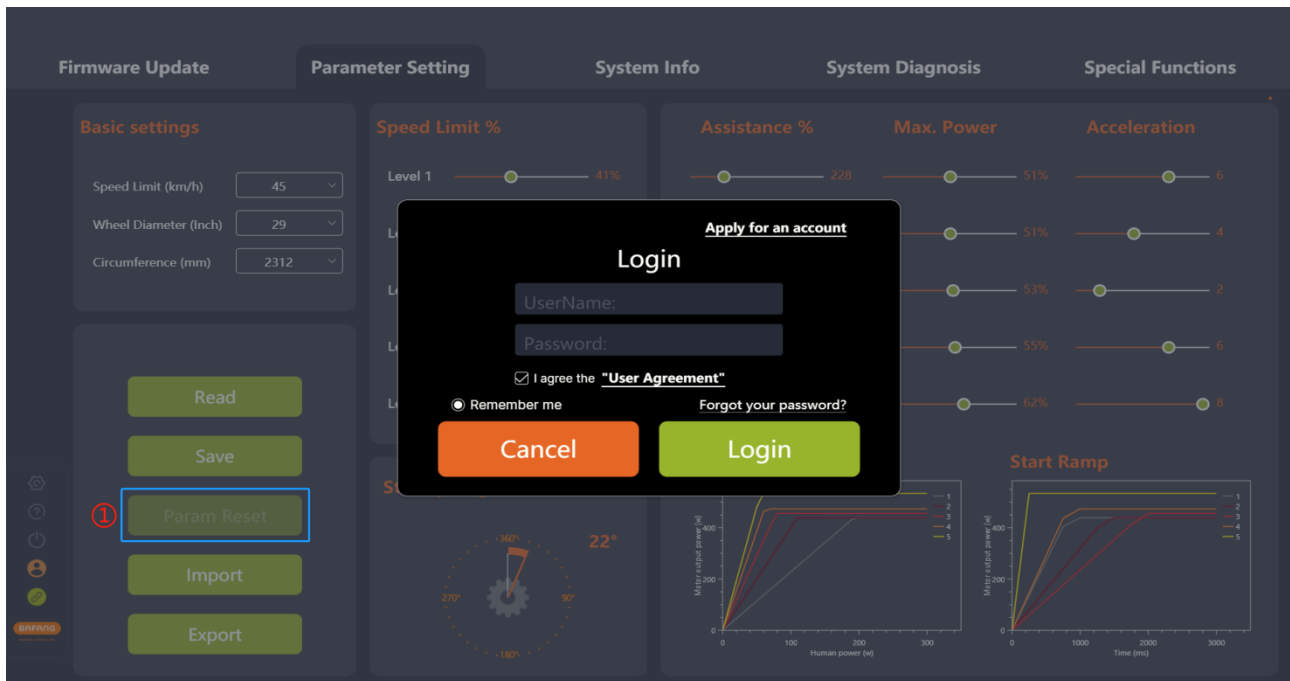

Fig. 5-15 Param reset
- (1) Confirm the connection between the BESST Tool and the controller and click the “Param Reset”. Note: If not logged in will pop up the login interface, will prompt the user to log in (Fig.5-15).
- (2) The parameters are reset to default values.